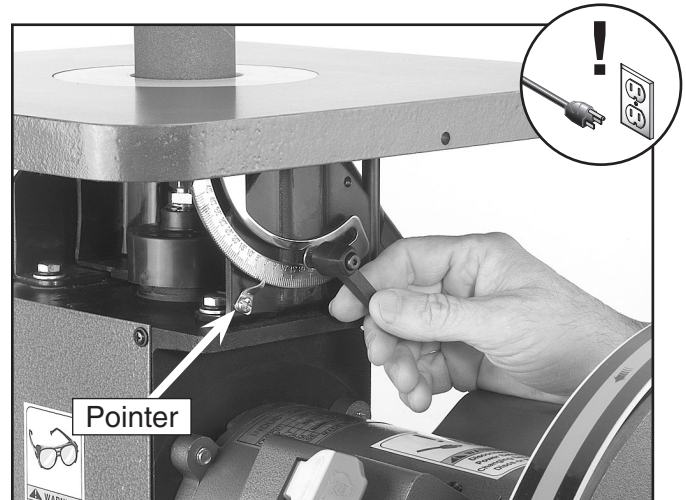

Figure 9. Setting the table scale at 90°.
3. Place a machinist square on the table and against the sanding spindle to verify the table is 90° from the edge of the sanding sleeve as shown in **Figure 9**.